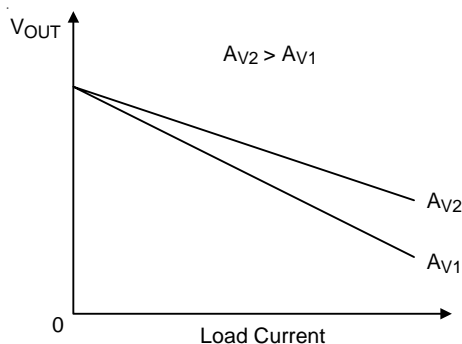

Figure 9. Error Amplifier gain ( $A_V$ ) Influence on Load Line
where  $A_I$  is the internal current sense amplifier gain 10V/V.  $R_{SENSE}$  is the current sense resistor. Figure 9 shows the error amplifier gain ( $A_V$ ) influence on  $V_{OUT}$  accuracy according to equation (2). In general, the DCR of the inductor is adopted as  $R_{SENSE}$  to achieve lossless current sensing method.  $R_{DROOP}$  is the equivalent load line resistance as well as the desired static output impedance.